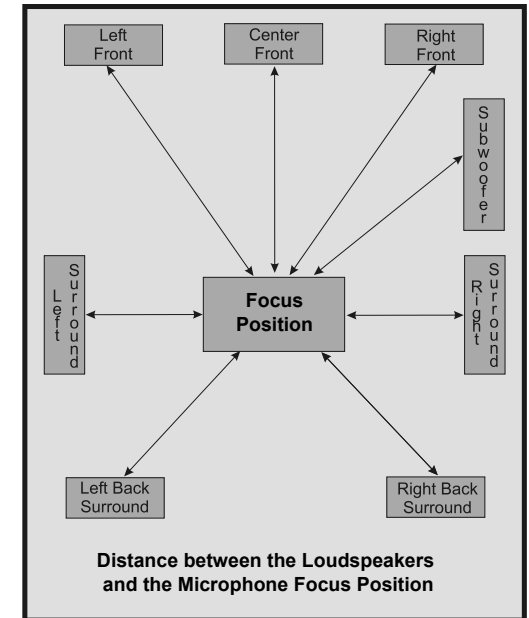

Figure 31
6. Measure the distance from the microphone location (Focus Position) to each of the Loudspeakers. Refer to figures 31 and 32. Using the Down▼ Push-button, highlight the "L" Loudspeaker Position and press the SELECT Push-button. Then use the Up▲ or Down▼ Push-buttons to enter the distance measurement. Use the Left ◀ Directional Push-button to highlight the "L" followed by the Down▼ Push-button to highlight the "L" Loudspeaker Position and enter the distance. When all the active Loudspeakers Distance measurements have been entered select "Continue" and press the